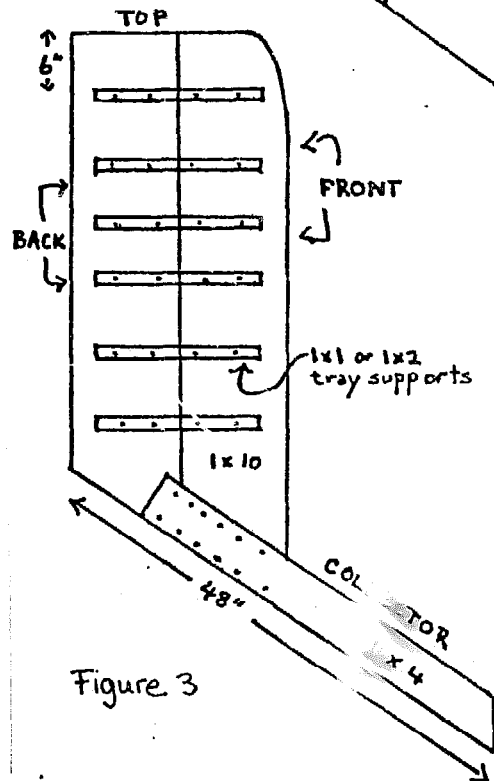

Figure 3
- 2 : SIDES OF COLLECTOR:** Mark off 40" on the 1 x 4, mark off 60 degrees so the short edge is 40" long. Cut. Duplicate this piece by using it as a template on the remaining 1 x 4 piece. (See "B", Figure 3). Nail the 1 x 4's to the 1 x 10's as shown, so that the bottom (long edge) of the 1 x 4 is flush with the angle cut of the 1 x 10's and makes 48" from the tip of the 1 x 4 to the edge of the 1 x 10. Note: the 1 x 4 is nailed on what will be the "inside" of the dryer, so when the second 1 x 4 is nailed to the second set of 1 x 10's the resulting configuration will be a mirror image of the first.